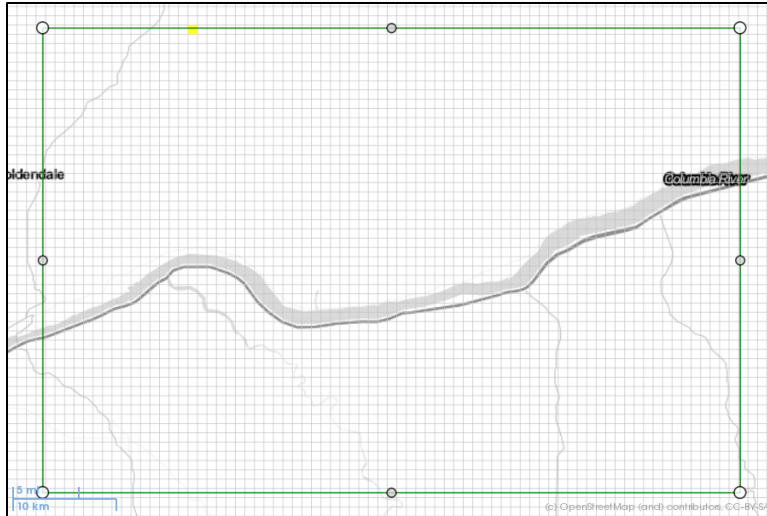

Figure 23. A Polygon shown on the map viewer
- **Add Polygon:** Select this item to add a polygon to the map (Figure 23). The polygon has two types of vertices that are differentiated by their sizes and color.